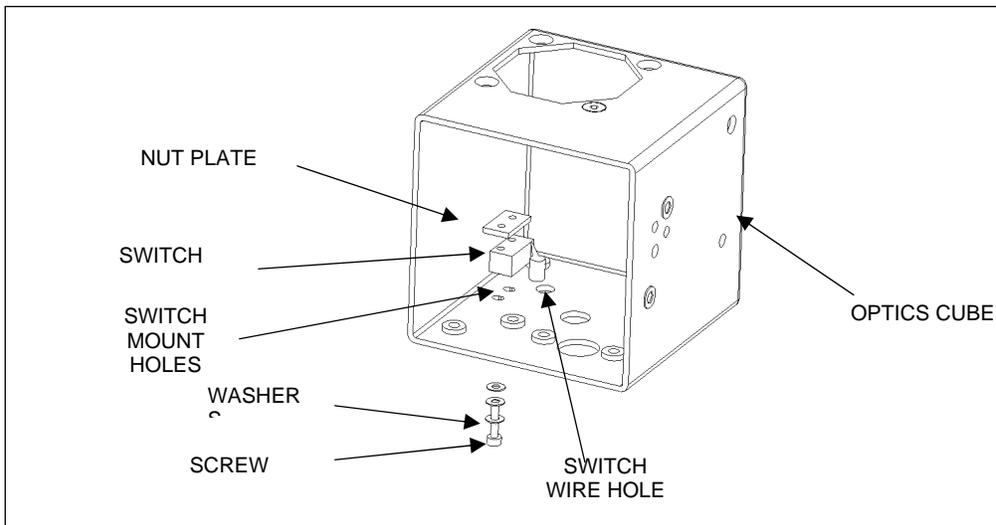

Figure 11-31 Filter Switch
- 3 Carefully cut away the RTV from the switch wires, release the wires from the connector and remove the switch from the cube (Figure 11-31).